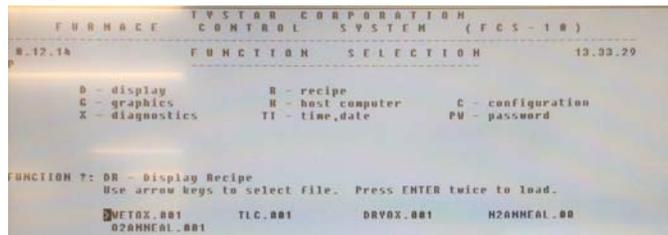

Figure 7: Screenshot of available recipes
- 9.3.4. Press MENU button, and then enter RL and the screen will show a list of the available recipes (Fig. 7). Use the arrow keys to highlight the recipe that you plan to load, and then press ENTER twice. Ask staff in case you need to modify any recipe parameter other than temperature. Do not modify any existing recipe on the tube computer by pressing Recipe Modify button since this will change original recipe database for subsequent users.